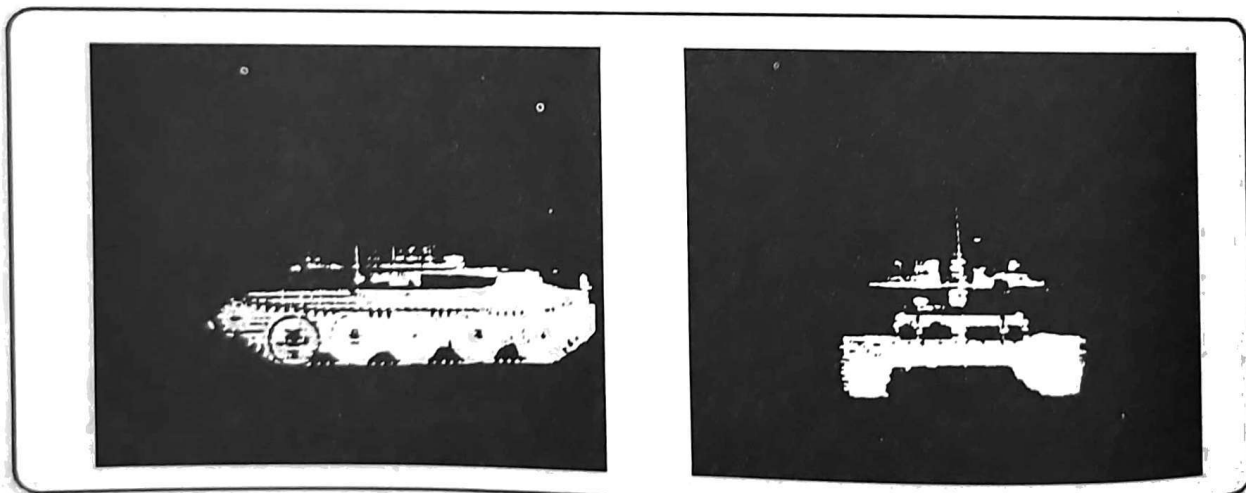

Figure A-5. T-62 medium tank.
c. T-62 Medium Tank (Figure A-5).